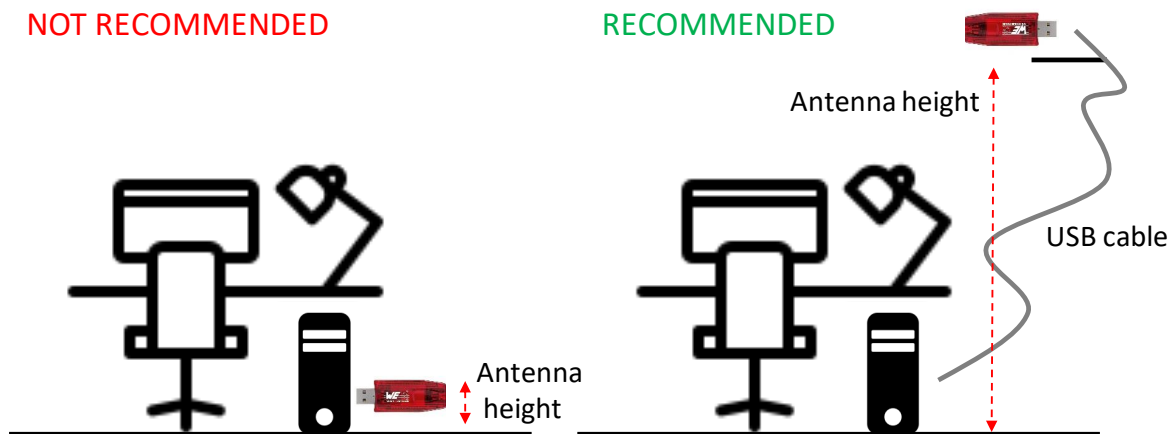

Figure 5: Placement of Thetis-I USB Radio Stick
- **Height of the antenna over the floor.** Keeping the antennas as high as possible over the floor improves the maximum achievable range. This factor might become particularly critical when using the Thetis-I radio stick directly plugged to a computer tower; for better range, a USB extension cable is recommended (see Figure 5).